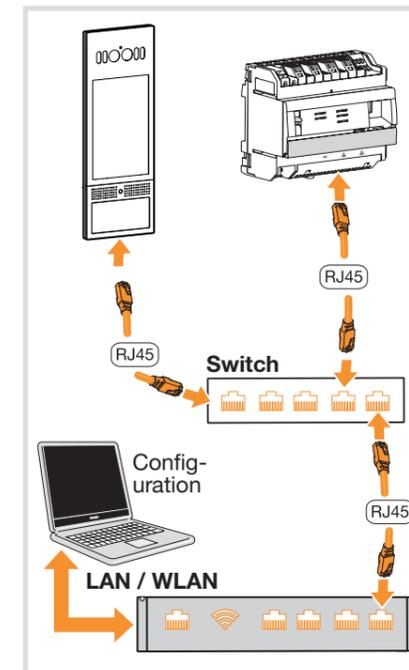

Fig. 28: Connecting to the IP network
- Connect the connection cables and network cables to the outdoor station according to Figure 28.